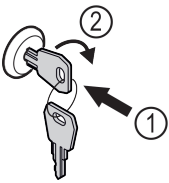

Fig. 172 Example illustration
- Insert key Fig. 172 (1).
- Turn key clockwise by 90° Fig. 172 (2).